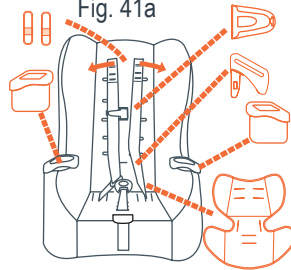

Fig. 41b
3. Remove harness cover, chest clip and buckle tongue on one side and set aside. Remove the cup holders and set aside (Fig. 41b).